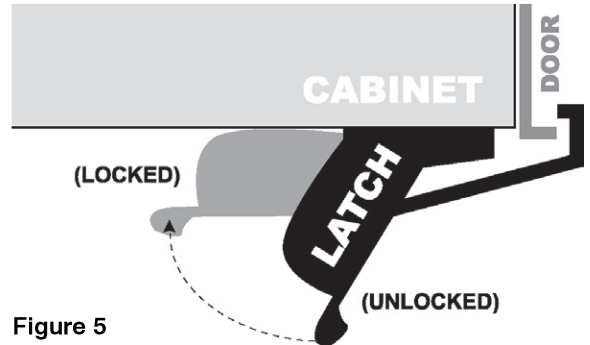

Figure 5
2. Open the door and place the workpiece in the center of the cabinet. Close door and latch **SECURELY** by placing latch in lip of door and pressing down (see Fig 5).